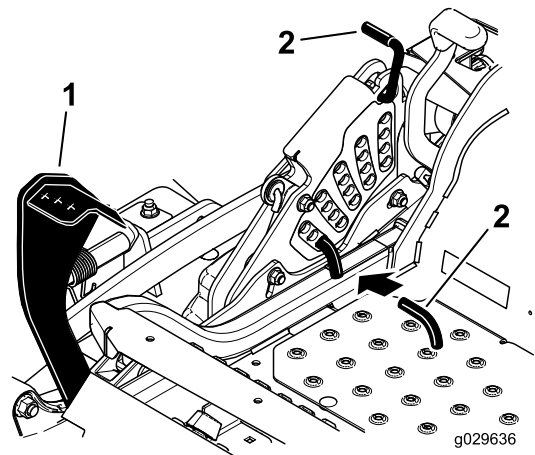

Figure 31
2. Push on the deck-lift pedal with your foot, and raise the mower deck to the transport position (also the 140 mm (5-1/2 inches) cutting height position) as shown in Figure 31.
3. To adjust, rotate the pin 90 degrees and remove the pin from the height-of-cut bracket (Figure 31).
4. Select a hole in the height-of-cut bracket corresponding to the height-of-cut desired, and insert the pin (Figure 31).